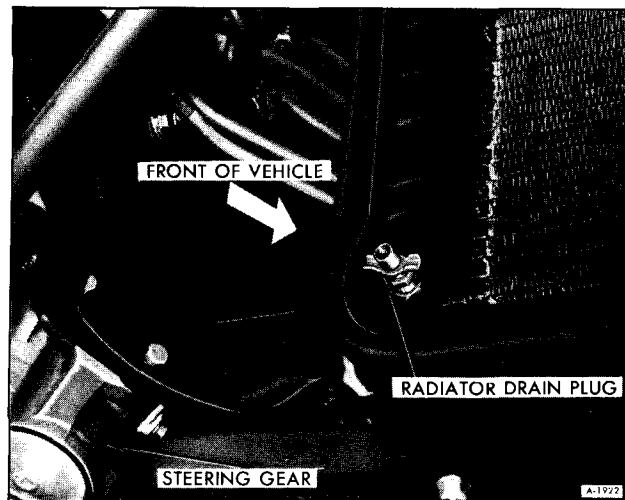

Figure 4-Radiator Drain Plug
2. With engine stopped, drain radiator coolant by opening radiator drain valve located at the lower left corner of the radiator as shown in Figure 4. Remove engine block drain plug on right lower side of block if desired.